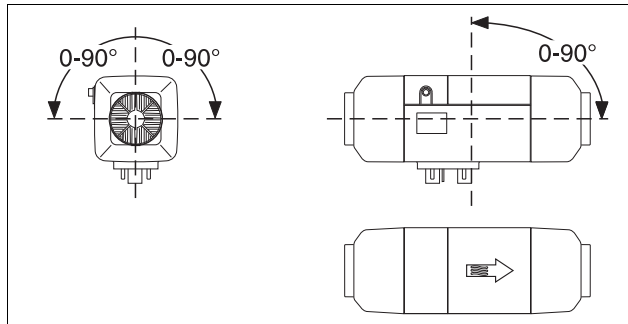

Fig. 8 Permissible installation positions of diesel-operated air heaters
see Fig. 4 and Fig. 8
- Do not exceed inclination angle (see Fig. 8).